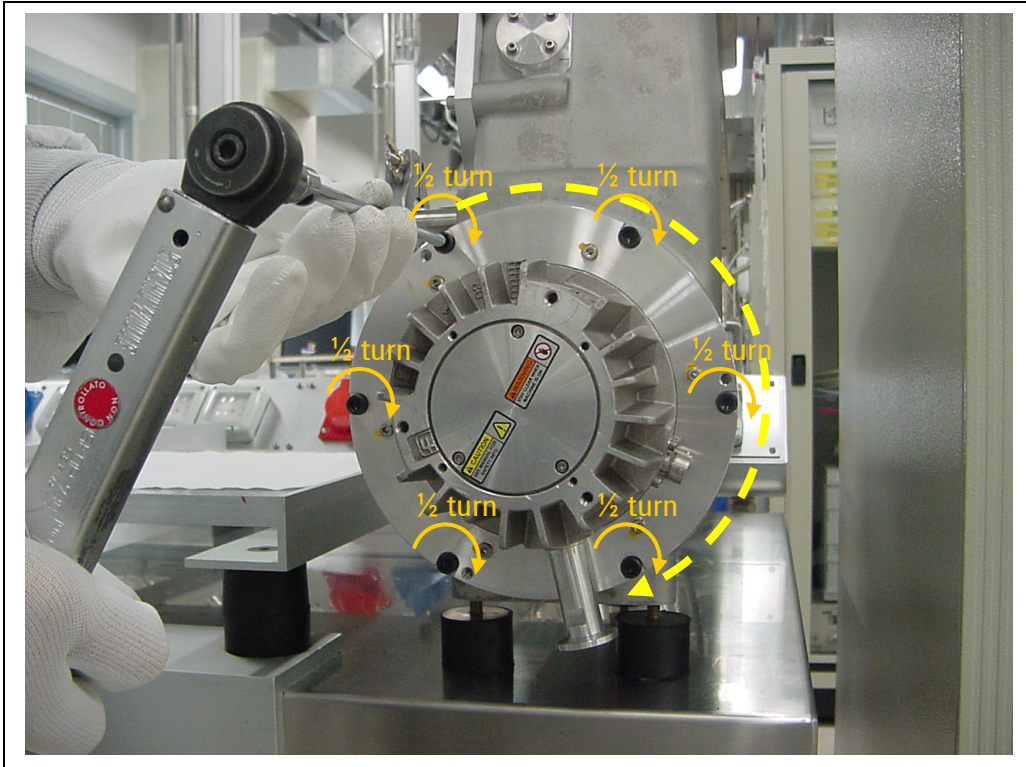

Figure 37
4. Screw in the 6 sphere-screws clockwise into the notched smooth holes present on the flange, starting anywhere, and proceeding 1/2 turn/lap, until the pump flange is in contact with the chamber flange (Fig. 37).